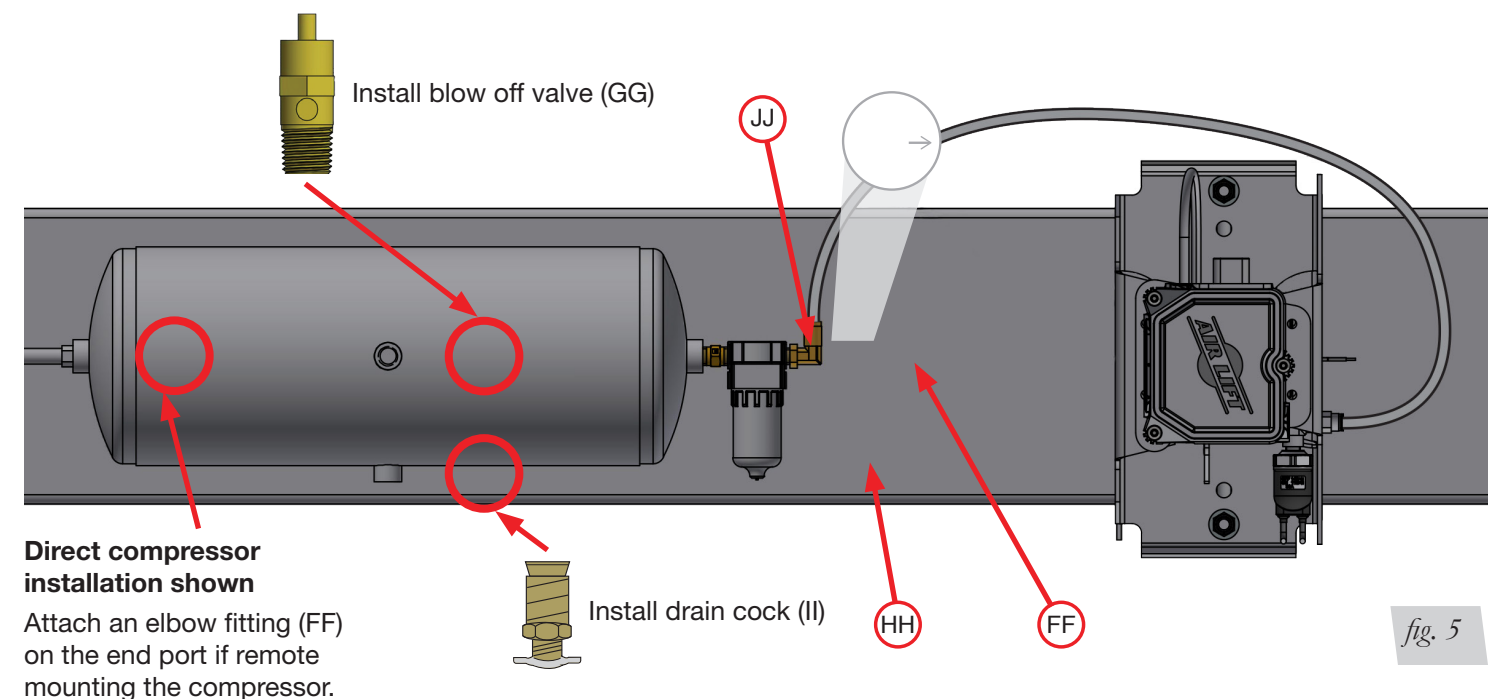

fig. 5
1. Know which direction you plan to mount the tank with respect to the other components before starting to install the necessary fittings for proper setup (Figs. 5 & 12).
2. Install the drain cock (II) into the tank port that is meant to point to the ground (Fig. 5). Apply tape or pipe dope and install 1 1/2-2 turns beyond finger-tight.
3. Install the blow off valve (GG) across the belly of the tank using one of the other (2) available ports and tighten 1 1/2 turns beyond finger-tight (Fig. 5).
4. Install a 1/4" MNPT X 1/4" PTC elbow fitting (FF) to the last of the belly ports (Fig. 5). This will be used for manual fill port later in this manual.
5. Install a 1/4" hex nipple (JJ) from the tank to the filter (HH) and then install an elbow fitting (FF) from the filter to the end port facing the manifold/EZ Mount assembly (Fig. 5). Apply tape or pipe dope and install 1 1/2-2 turns beyond finger-tight. Ensure the arrow on top of the filter points to the EZ Mount.
6. If the compressor leader line cannot reach the tank so it can be directly installed, install an elbow fitting (FF) on the last end port (Fig. 5). Apply tape or pipe dope and install 1 1/2 -2 turns beyond finger-tight.